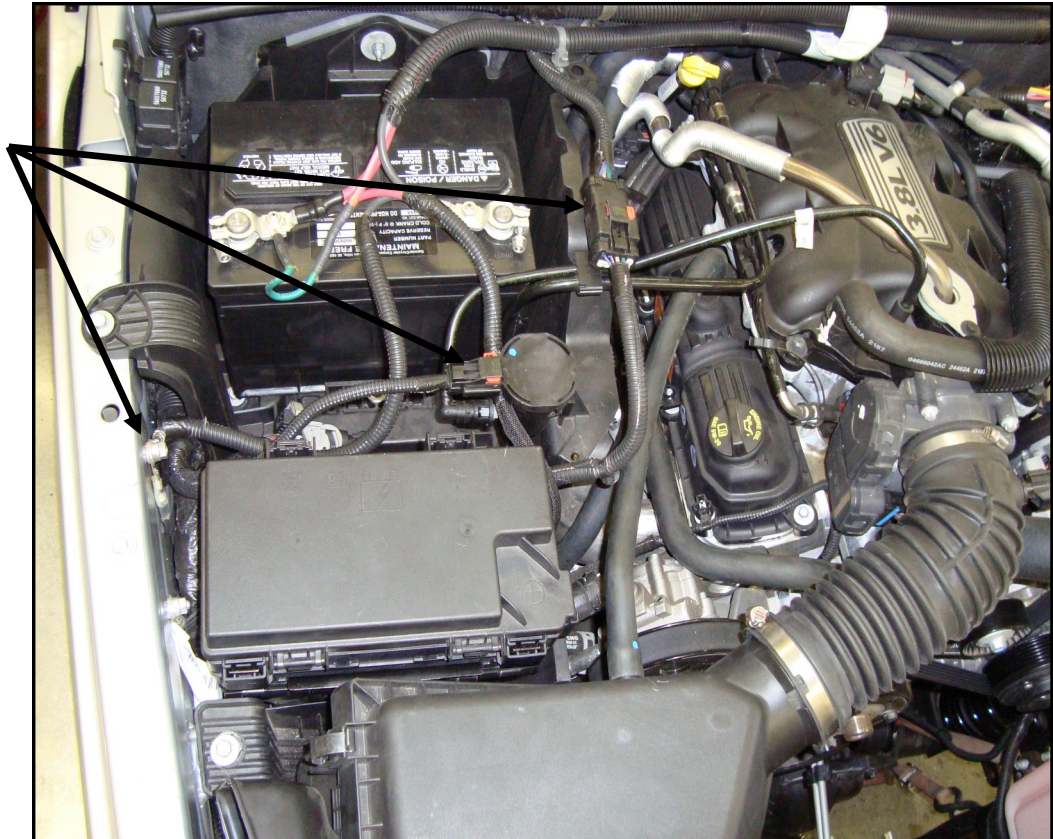

FIGURE 4
STEP 5: Disconnect large connector coming from PCM. Carefully release tabs that retain Power Distribution/PCM to bracket and lift up on Power Distribution/PCM . Carefully disconnect all connectors from Power Distribution/PCM and move out of way. Remove Battery hold down and remove battery.(see figures 4,5 & 6).